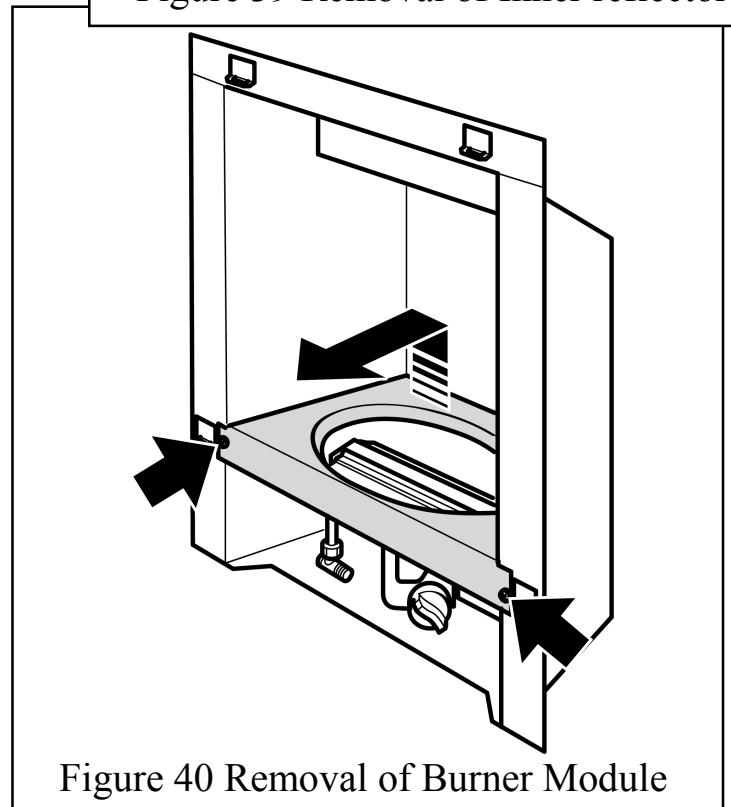

Figure 40 Removal of Burner Module
6. Remove the two screws to the side of the burner cover (See figure 40)
7. Detach the burner cover by lifting clear of the burner module (See figure 40). Place the burner cover in a safe place away from the work area.